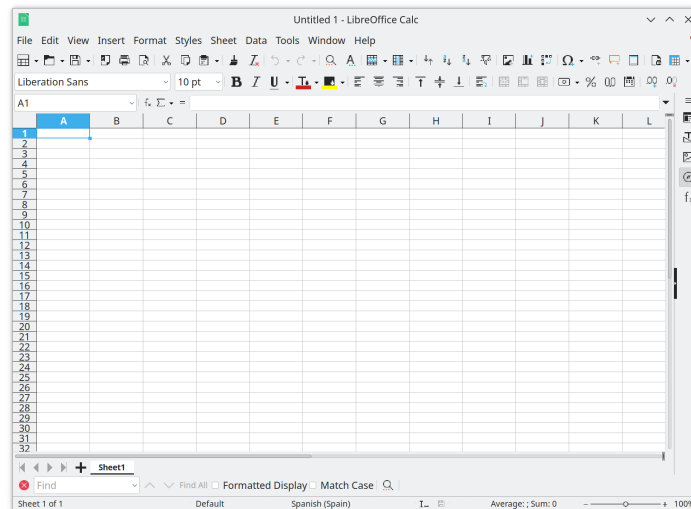

Figure 7.1: Initial state of LibreOffice
1. Launch the LibreOffice program. Upon opening, you will see the initial state of the application, as shown in Figure 7.1. A blank spreadsheet will open, where you can enter your data.
A screenshot of the LibreOffice Calc application window titled "project_data.csv - LibreOffice Calc". The window shows the same spreadsheet interface as Figure 7.1, but now it contains data imported from a CSV file. The data is organized into columns A and B, with some values extending into columns C, D, and E. The active cell is B5.